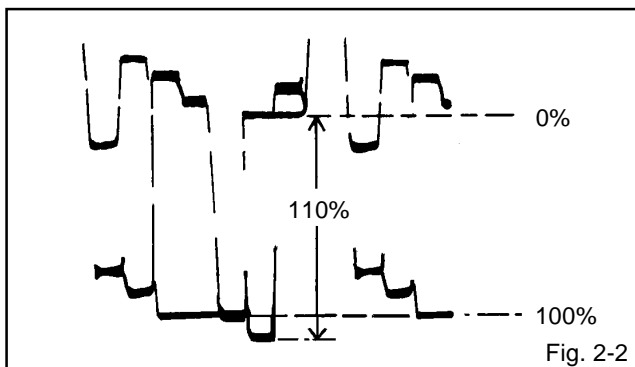

Fig. 2-2
7. Press the VOL. UP/DOWN button on the remote control until the red color level is adjusted to 110% of the white level. (**Refer to Fig. 2-2**)